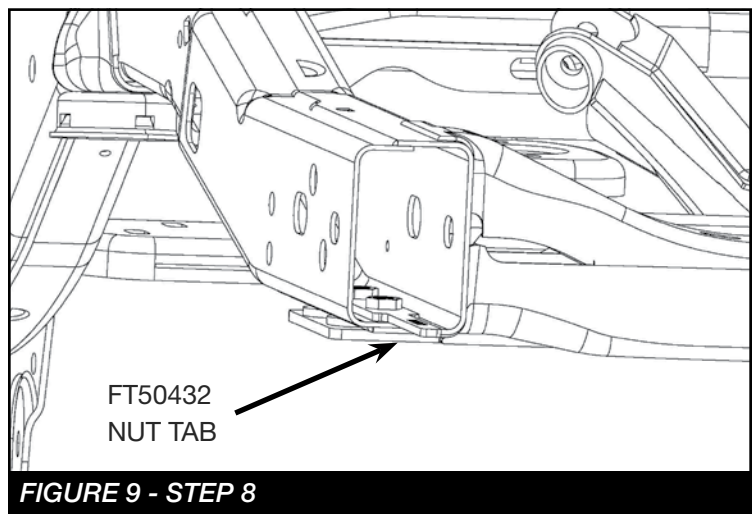
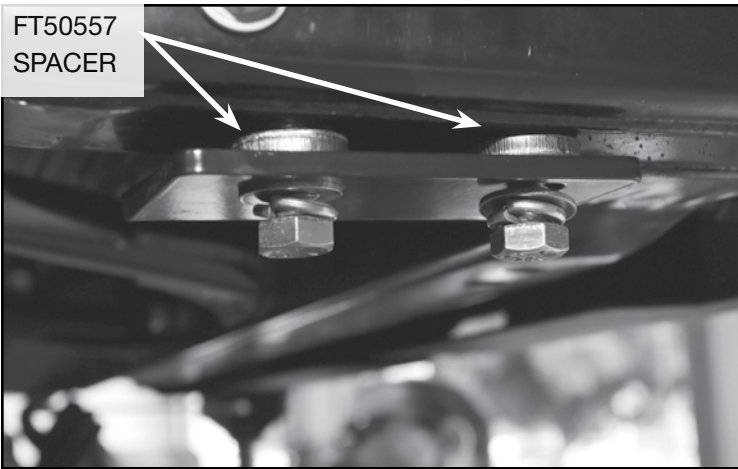

FIGURE 9 - STEP 8
FIGURE 10 - STEP 8
- Locate FT50432 (Dual nut tab), (**NOTE: For factory bumpers and aftermarket that do not included new frame rails use FT50557 Spacers**) and 1/2" X 1-3/4" bolts, lock and standard washers. Insert the nut tab through the rear opening of the frame to line up with the factory holes on the Drivers side. **SEE FIGURE 9.** Install the 7/16" hardware at the rear sides of the sub-frame using the FT50557 (Spacers) between the vehicle frame and Fabtech sub-frame. **SEE FIGURE 10.**
- Passenger Side: Using the sub-frame as a guide, drill the (2) 1/2" holes into the frame and repeat step 8 on the Passenger side.